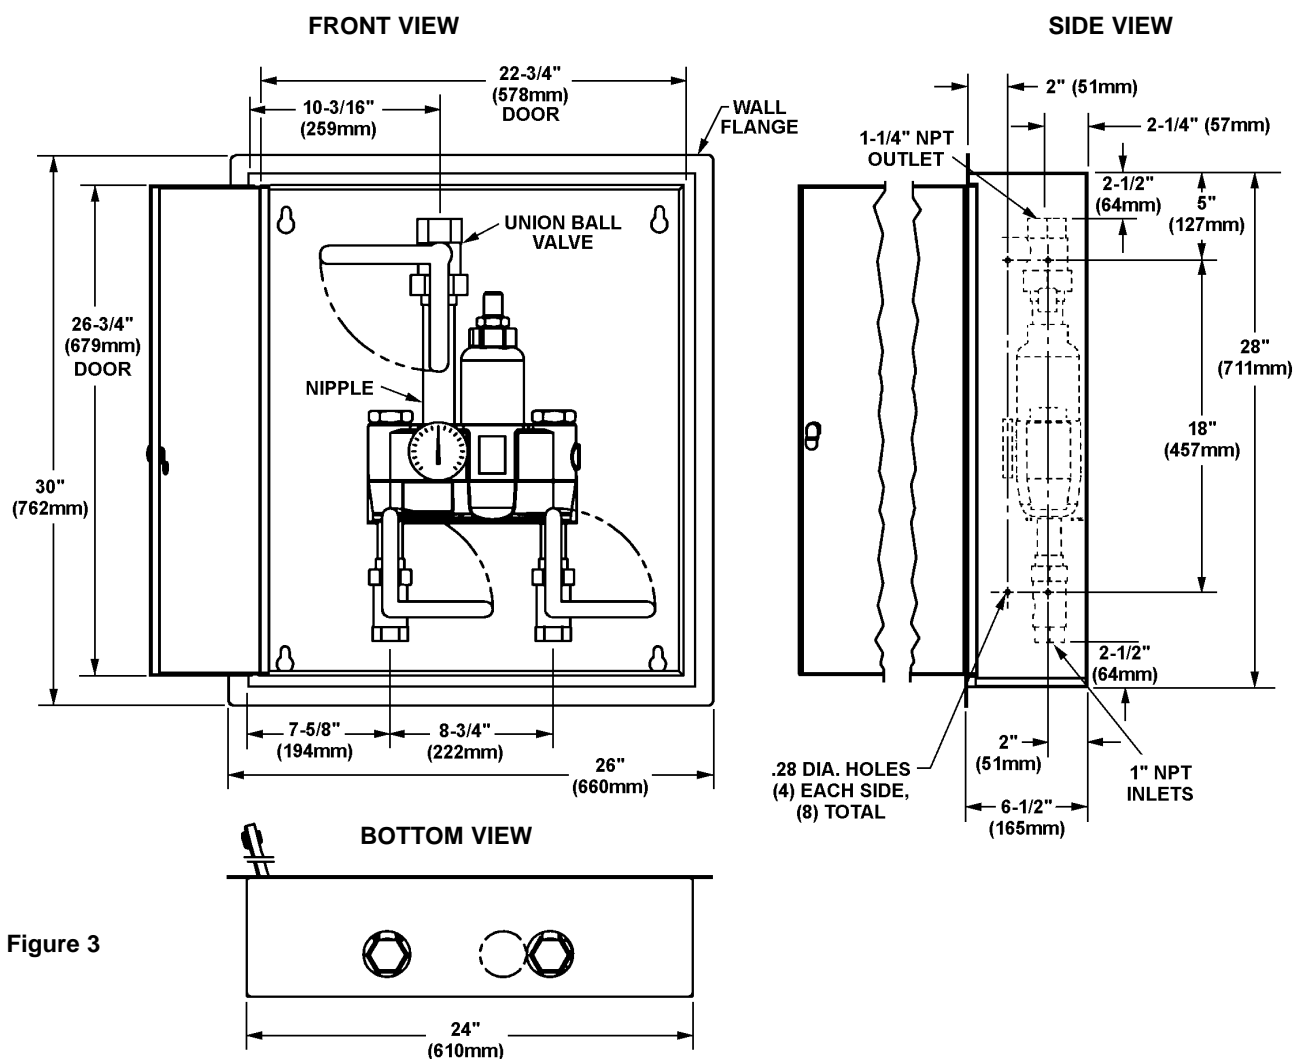

Figure 3
1. Rough in a 24-1/2" W x 28-1/2" H hole in the wall for the cabinet (see Figure 3).
2. Measure and mark the cabinet mounting hole locations at the dimensions shown in Figure 3. Install four 1/4" wall anchors, if required (supplied by installer).